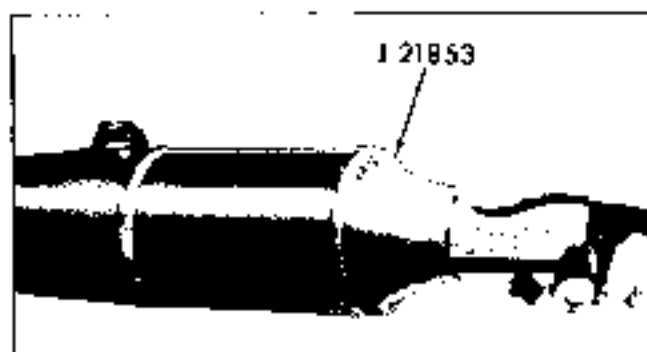

Fig. 9-10 Installing Turn Signal Switch Cover
8. Install turn signal switch cover using tool J 21853 (Fig. 9-10).